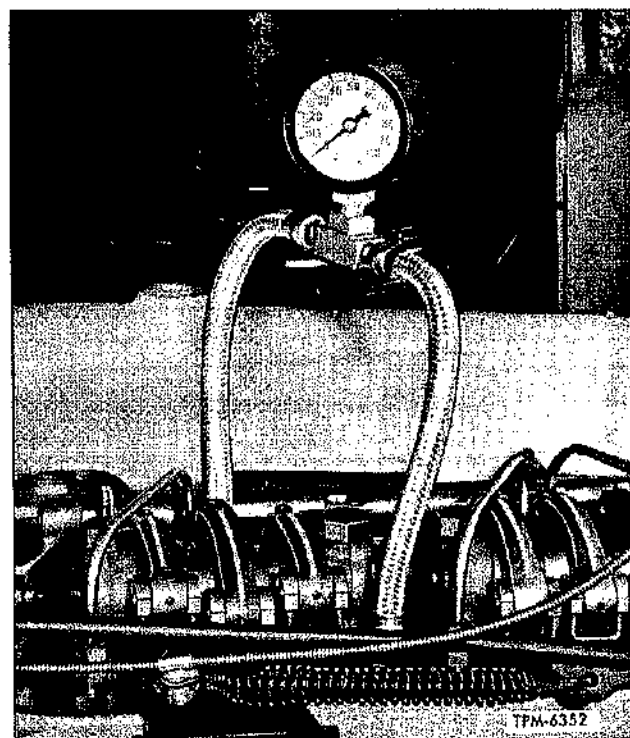

Figure 9—Checking Fuel Pressure at Injector
The Fuel Pressure Gauge is designed for use in checking fuel pressure at the injector with the engine in operation. Remove the jumper line from the injector to the return fuel manifold and connect the fuel gauge in place of the jumper line (fig. 9). At 2,000 rpm normal fuel pressure should be fifteen (15) pounds minimum.